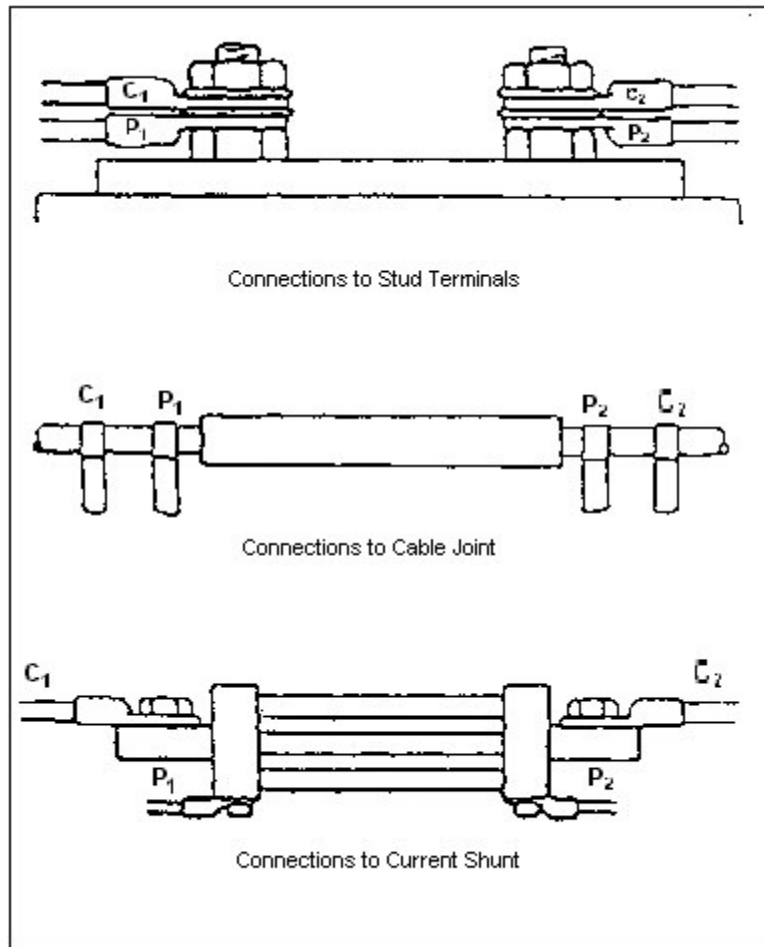

Fig. 3.3 Connections for resistance measurements with various DUT configurations
- d) Fig. 3.3 illustrates connections to various types of test resistors